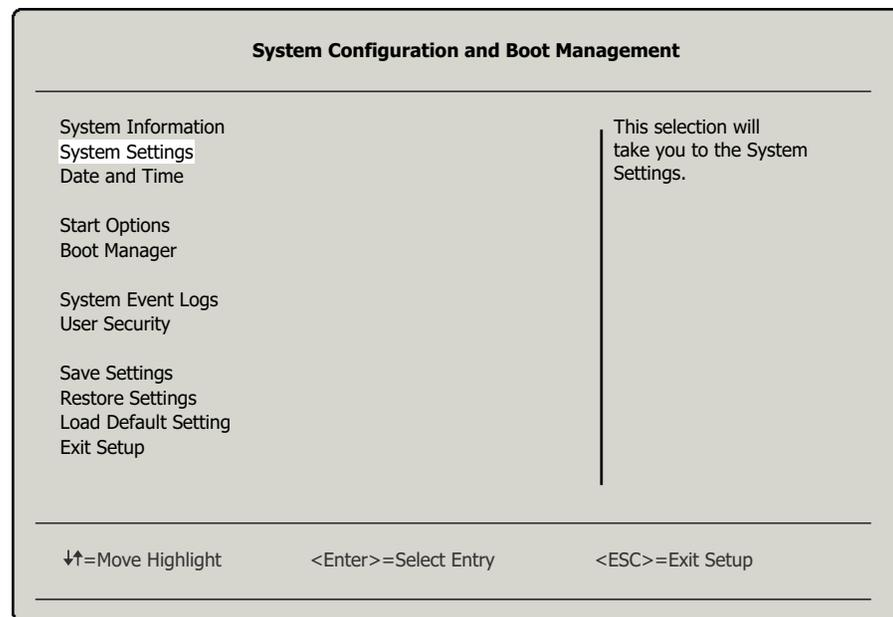

Figure 5-2 Blade UEFI utility main menu
2. When prompted during POST, press F1 to display the System Configuration and Boot Management panel (also known as the *UEFI utility main menu*, see Figure 5-2).